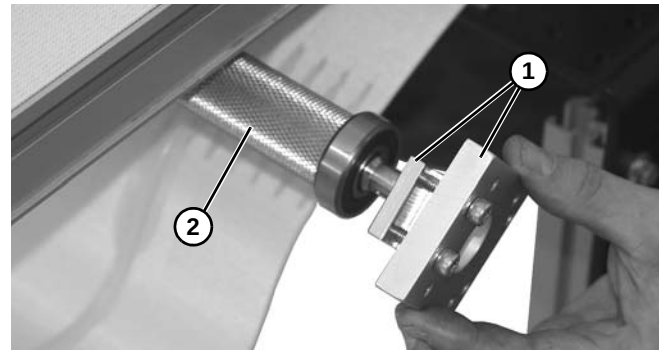

Figure 63
6. Separate mounting blocks (**Figure 63, item 1**) from spindle (**Figure 63, item 2**).